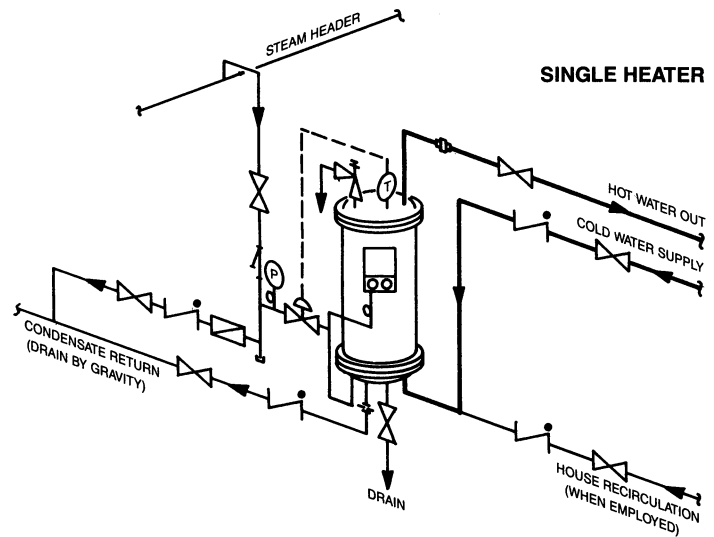

Figure HE-107-2 -- Piping Connections for a Single Heater
All other items -- shutoff valves, check valves, strainers, unions or flanges, and other piping and fittings as shown in Figures HE-107-2 through HE-107-5 -- are to be furnished by others.
- Single Heater -- Figure HE-107-2
- d. include all of the shutoff (stop) valves, check valves, steam traps and other elements in the piping as shown in Figure HE-107-2, HE-107-3, HE-107-5, or HE-107-5, or as separately specified by AERCO. Note that the check valve shown at the Heater in the Condensate return line is furnished in the piping package assembly by AERCO.
- CM7. Steam supply line is not properly trapped. Install a trap as indicated in the Figures HE-107-2 through HE-107-5.